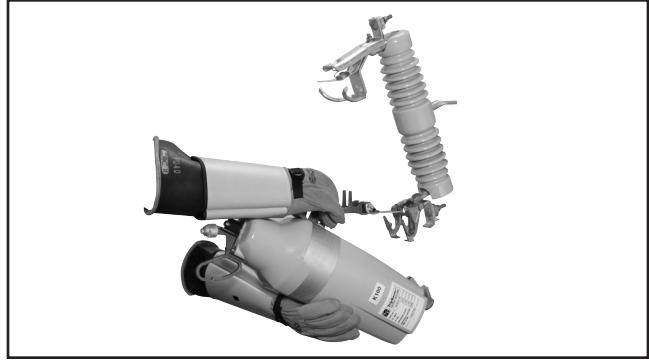

Figure 5a. Inserting 15/27-kV TripSaver Dropout Recloser into mounting.
- b) Insert 15/27-kV TripSaver Dropout Recloser into the mounting by hand as shown in Figures 5a and 5b. Ensure that the end of the trunnion slides under the connector bracket, as shown in Figure 5d. This allows the trunnion to be lowered into the hinge. Alternately, insert the curled prong of an S&C Talon Handling Tool or a distribution prong into the lifting eye on the trunnion, and raise TripSaver Dropout Recloser into the mounting. See Figures 5c and 5d. If a Talon tool is used, rotate the universal pole counterclockwise 180° to disengage it.